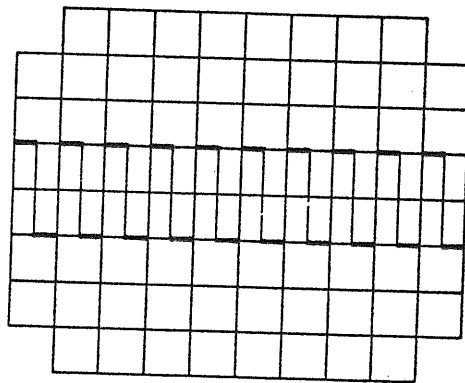

Fig. 5
- 3) Connect the signal of the CALIB (1 Vp-p) terminal to the vertical INPUT terminal (9) using the lead with BNC connector or other appropriate cord.
- 4) Set the GND (11) switch in the popped up state () , and so adjust the LEVEL knob (16) that the displayed waveform becomes stationary. A waveform as shown in Fig. 5 should be displayed on the CRT screen.